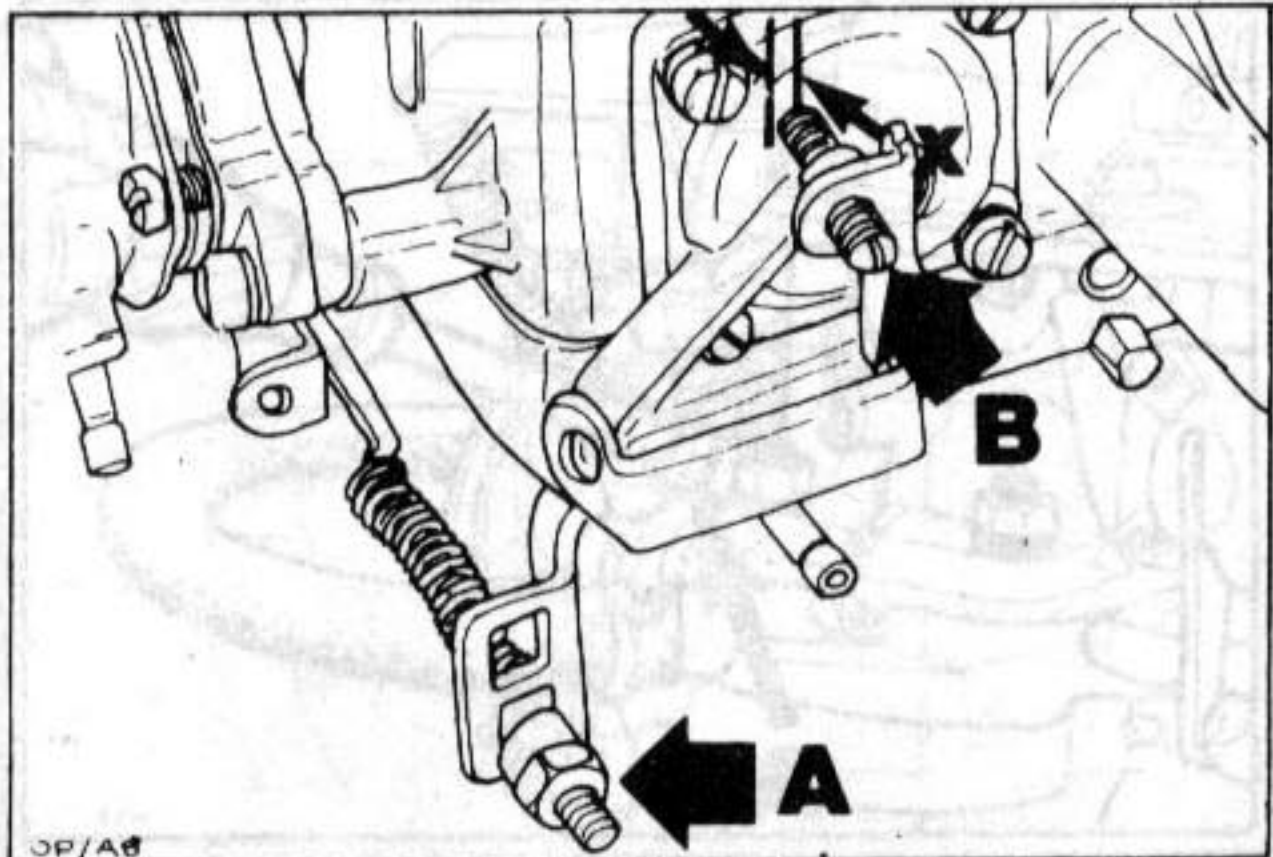

Fig. 7 Checking accelerator pump setting
- If necessary, adjust by turning nut (A) on pump link rod in appropriate direction (Fig. 7).
- If necessary, adjust by turning screw (B) in appropriate direction.